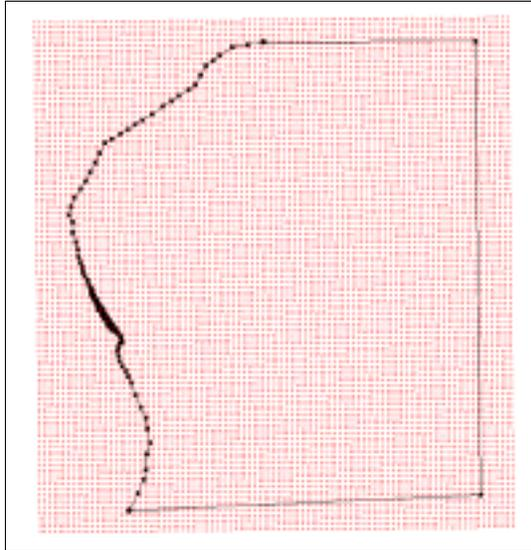

Figure 13-2. The domain for the model.
2. Create an arc starting on one end of the coastline, extending out into the ocean, and then connecting to the other end of the coastline, as shown in Figure 13-2.